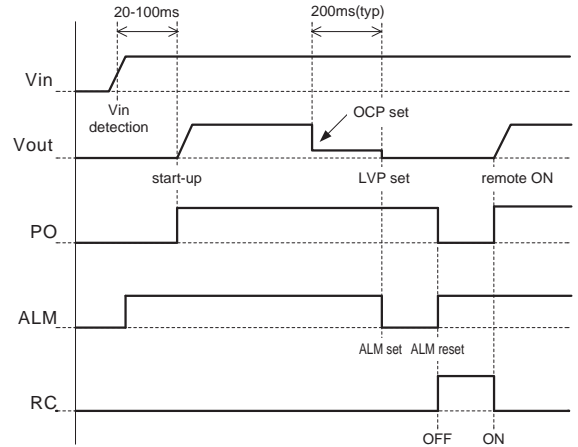

Fig.4.7 Sequence time chart
- The sequence time chart of Vin, Vout, PO, PR, ALM and RC pins is shown in Fig.4.7.